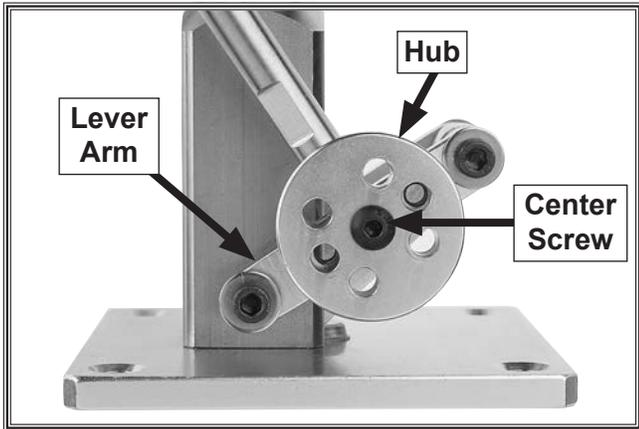

Figure 10. Holes in hub and lever arm aligned.
3. Place hub over left lever arm and install center screw (see **Figure 10**).
4. Rotate hub to desired angle, align holes in hub and lever (see **Figure 10**), then install remaining screws.